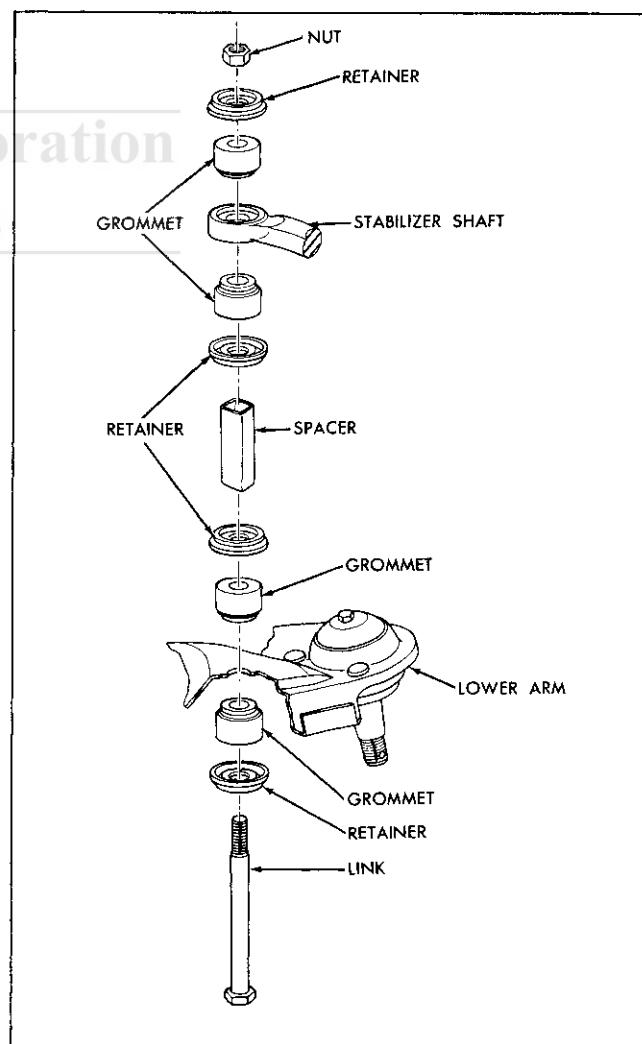

Fig. 3-8 Exploded View of Stabilizer Link
2. Install link assembly as shown in Fig. 3-8. Tighten nut 15 lb. ft. torque (Pontiac and Tempest) 90 lb. in. torque (Firebird).